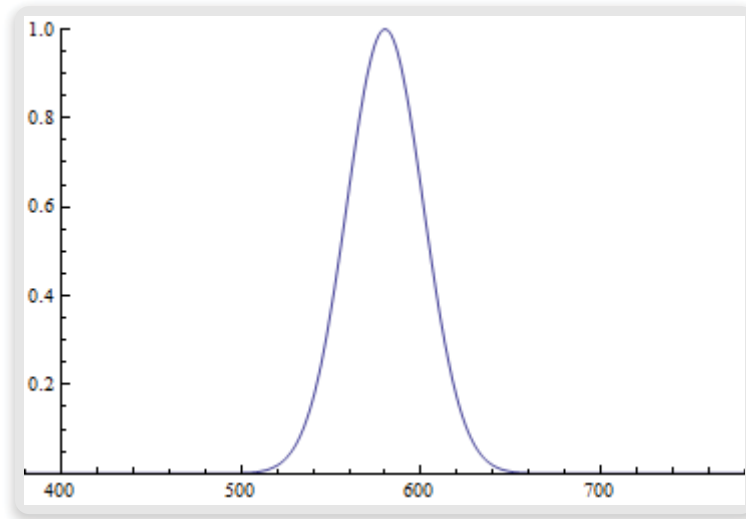

Figure 3. A spectral power distribution function of Gaussian type.
- ▶ Each light source has to be equipped with a *spectral power distribution (SPD) function* that describes the source's relative emitting power as a function of the wavelength. In practice, this function determines the relative frequency of rays produced by the source during the simulation (that is, rays having wavelengths with higher emitting powers are produced more often than those with lower emitting powers). Figure 3 shows an SPD function defined on the visible spectral range that is typical for LED emitters ($\lambda = 380 \text{ nm} - 780 \text{ nm}$). Another common SPD function is $f(\lambda) \equiv 1$ for all wavelengths λ (this is the case for perfect white light where all λ have the same intensity).